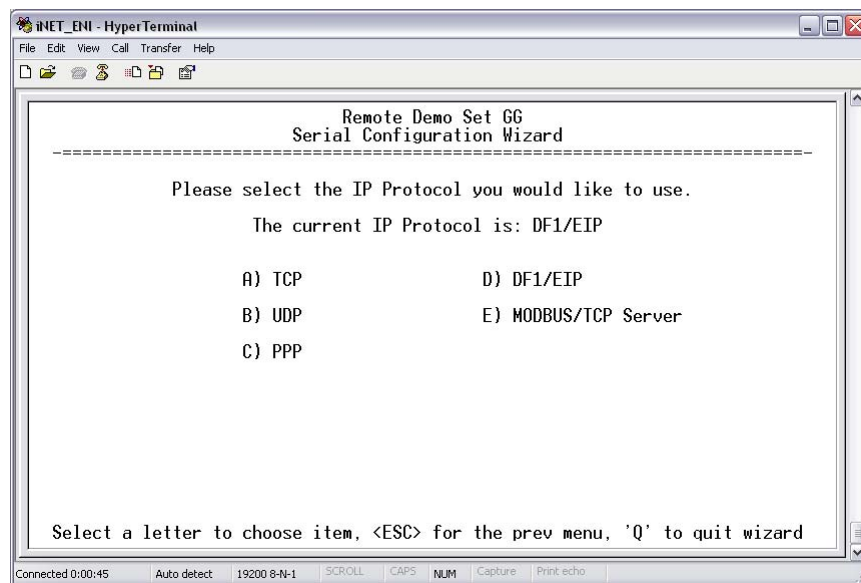

Figure A-1. Select IP Protocol Screen
2. Select the IP Protocol screen displays. See Figure A-1 below.